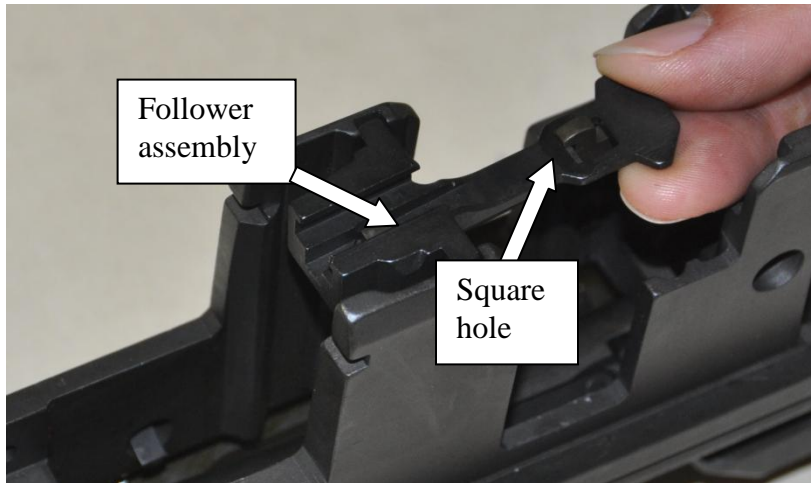

Figure 40. Follower assembly insertion
- 5) Invert weapon and replace the follower assembly so that its guide ribs fit into their grooves on the receiver. Make sure that the slide of the follower is down and that the square hole is to the rear (fig 40). The slide will rest against the bolt.